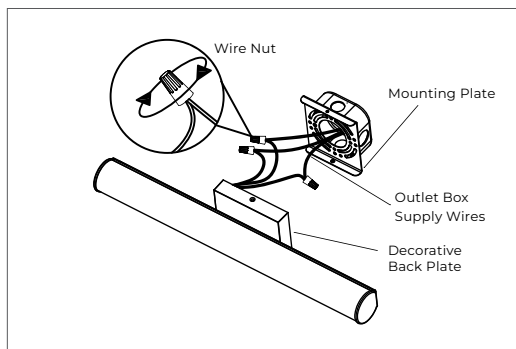

FIGURE 3
C) Follow wiring instructions in Figure 3 and in wiring section.